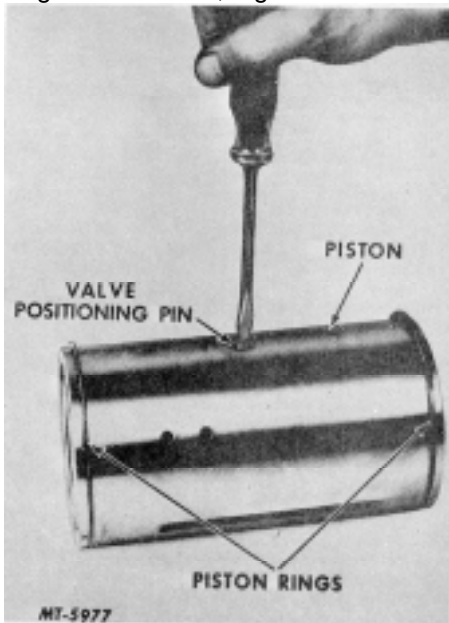

Fig. 25
22. Remove valve positioning pin from the piston using a screwdriver, Fig. 25.